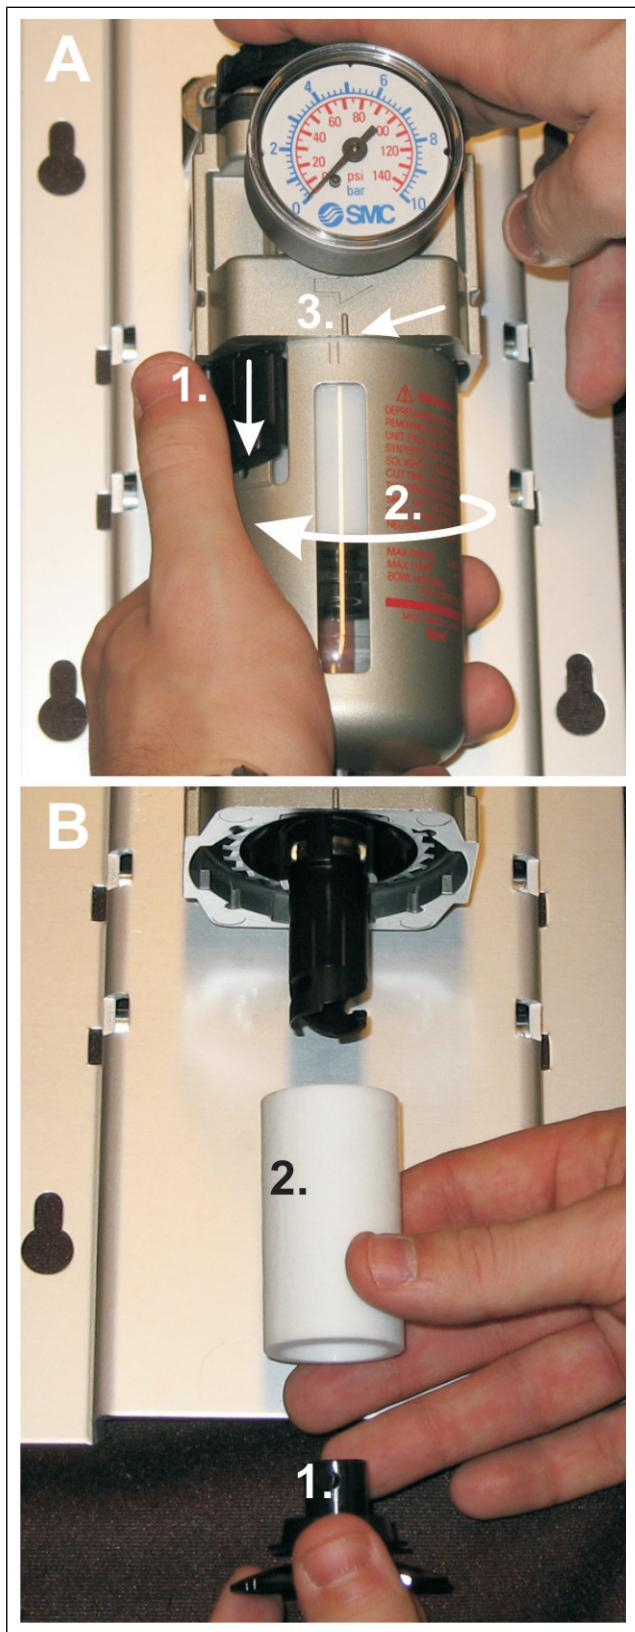

Fig. 2. Cleaning the pressure regulator.
2. Pull the latch down (Fig. 2, step A 1.) and turn the filter bowl (2.) until the two lines marked on the bowl match with the center line of the body (3.).